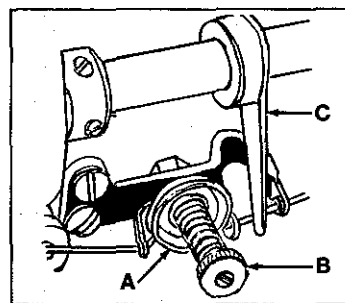

FIGURE 24
Spreader thread is controlled by the tension discs (A, Fig. 24) mounted on the back side of the head. Tightening or loosening the nut (B) adjusts the tension. Approximately $\frac{1}{2}$ to 1 ounce (14.18 or 28.35 gr.) of tension is required. The strike off lever (C) should barely contact the thread in its lowest position.